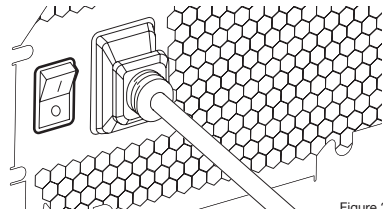

Figure 3
4. Turn on the power by flipping the ON switch on the PSU. The pump motor will be primed with coolant from the reservoir and will start flowing through the system. Turn the power OFF before the reservoir is emptied. Do not let the pump run dry or without coolant in the reservoir as this will damage the pump (Figure 3)!
6. Reconnect the XD5 RGB's pump 4-pin fan connector into Fan Port #6 on your CORSAIR iCUE Commander PRO as shown on Page 15, (Figure 3).